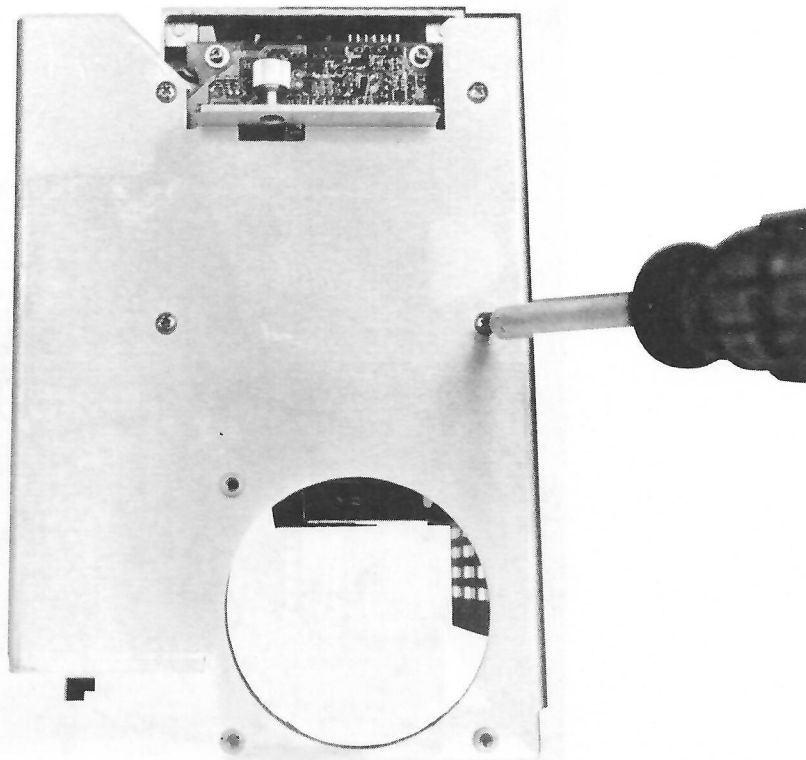

Figure 13-17 Lisa disk drive removal.
4. Remove the internal disk drive by tilting the drive cage forward and loosening four Phillips-head screws at the bottom. Use a #1 Phillips-head screwdriver. Support the drive with one hand as shown in Figure 13-17.